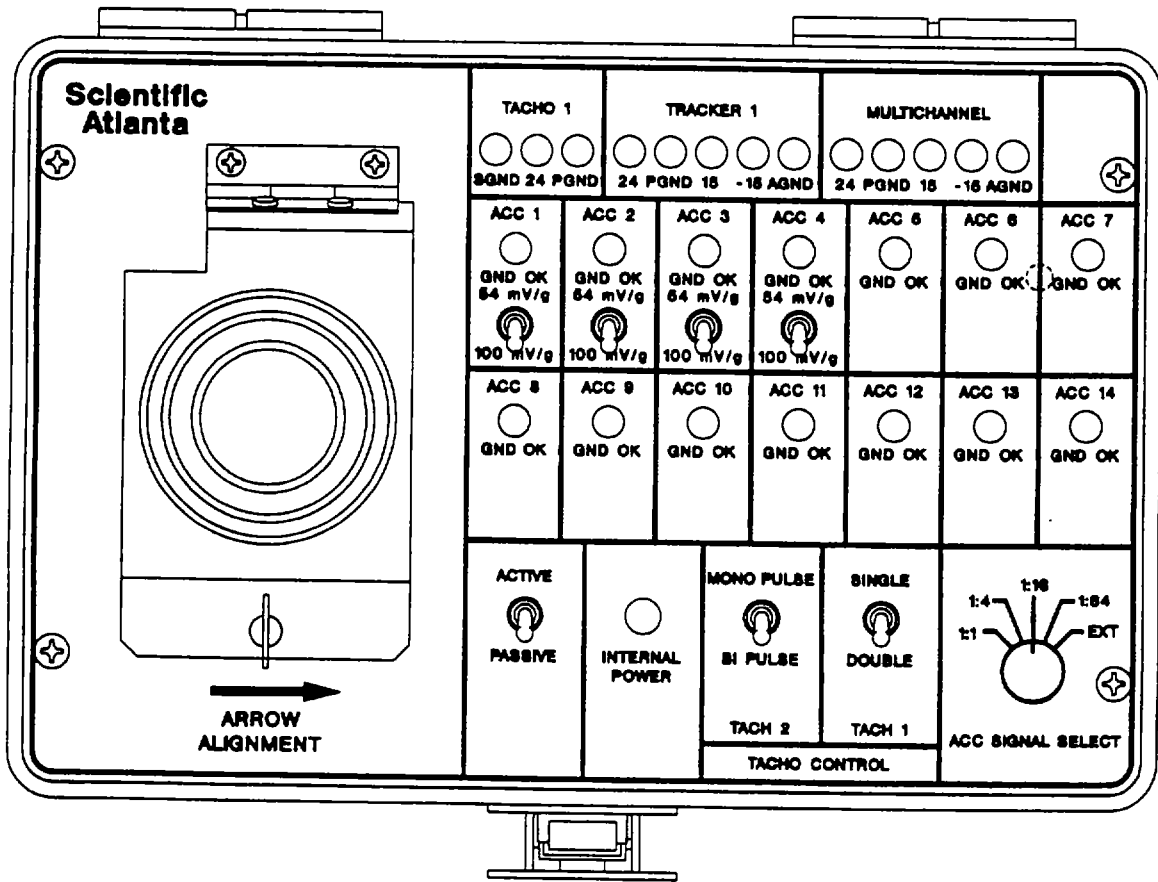

Figure 2-2. Electronic Test Set Front Panel
- c. Front Panel (figure 2-2). The front panel of the test set contains 28 LEDs, eight switches and the optical tester. Each switch performs specific functions while each illuminated LED indicates a positive connection to power and ground.
- (1) INTERNAL POWER